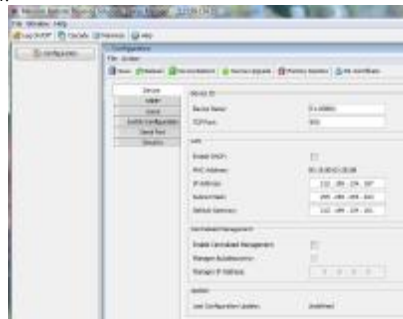

Figure 4 Smart 116 IP Web interface
4. Press **Enter**. The Web interface opens at the Network Configuration page, see Figure 4.